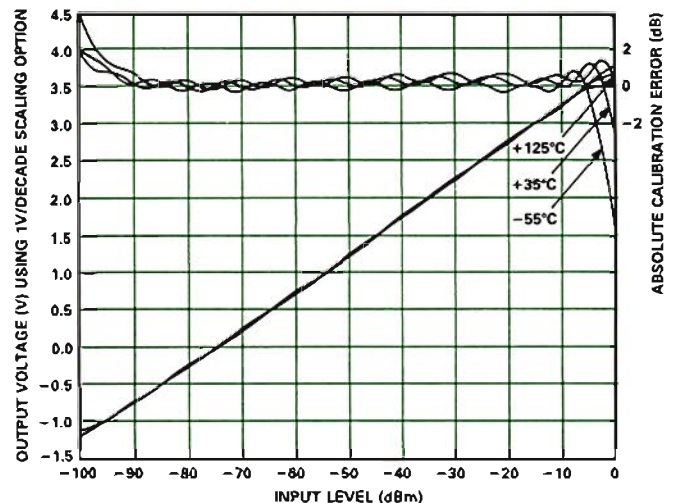

Figure 3. Output and error of cascaded AD640s over the range -100 dB to 0 dBm (square wave) at -55, +35, and +125°C.
-2 dBm) in a 20-Hz-to-100-kHz bandwidth (Figure 3). Note that -97 dBm (50 Ω) corresponds to a signal of only 3 μV rms. In 50-MHz-to-150-MHz operation (that is, 100-MHz bandwidth), it is still possible to provide a 70-dB range with good accuracy. The AD640's on-chip attenuator can shift the dynamic range upward by 20 dB, allowing inputs of up to +18 dBm to be handled directly at the IC pins—a useful feature.